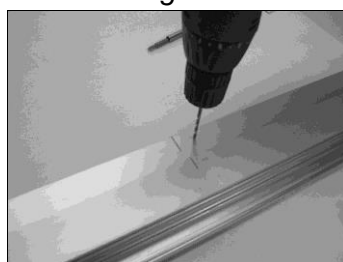

Fig. 5
Fig. 5 bis
- E. Drill the holes and screw in the front bracket, making sure that all screws are fitted tightly (Fig. 5 and 5bis).